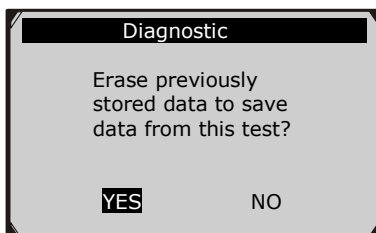

Figure 5.1
- 7) You will be prompted to erase previously stored data. (Figure 5.1)